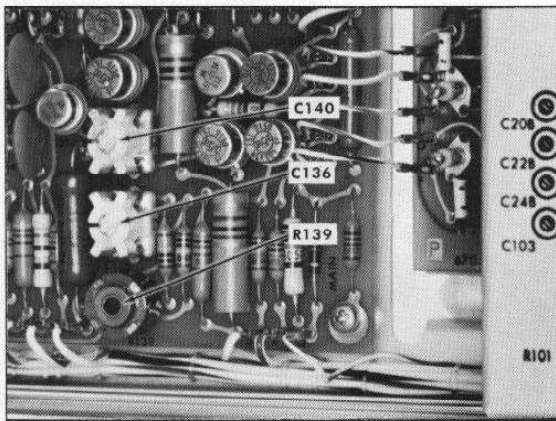

Fig. 6-14. Location of Com Mode Bal R139 adjustment, C136 and C140.
- g. Adjust Com Mode Bal R139 for minimum tilt of the horizontal line. See Fig. 6-14 and 6-15. A tilt of 3 cm at 1 mVOLT/CM is equivalent to a CMRR of 10,000:1 ($3 \times 1 \text{ mV} = 3 \text{ mV}$; $30 \text{ V}/3 \text{ mV} = 10,000$).